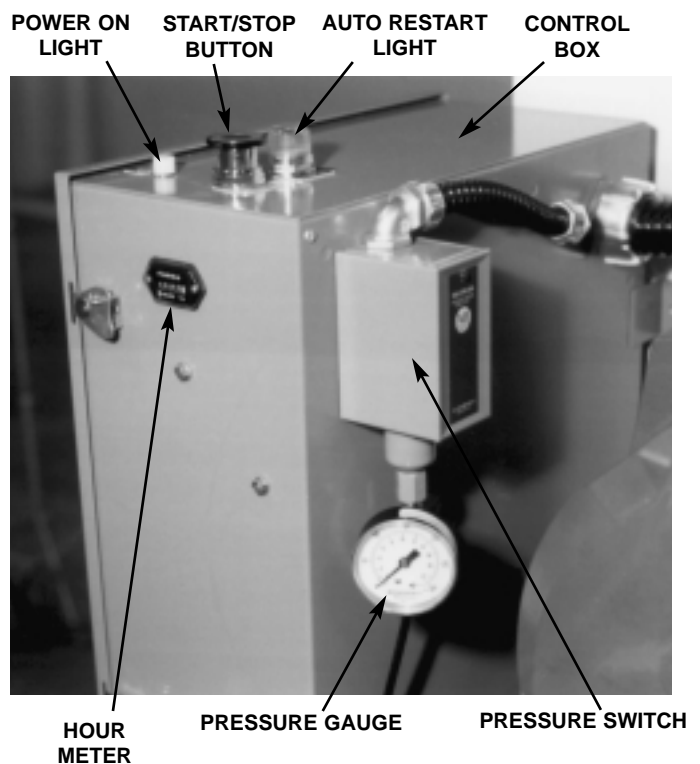

FIGURE 2.9-1 CONTROL BOX
1. Assure that Start/Stop push button is in the OFF (depressed) position (See Figure 2.9-1).